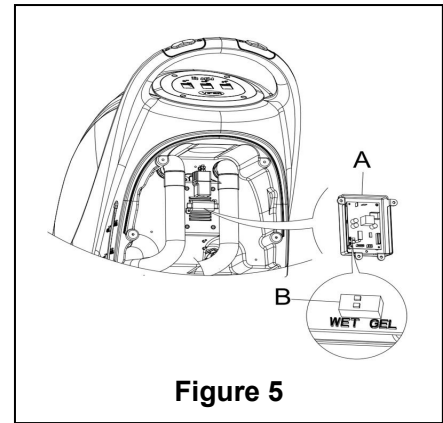

Figure 5
2. Take off draining hose (15)
4. Take off the control cover (5), and the screws of the battery cover (10). Remove the screws on the PCB stand. The DIP switch (B) for setting the battery model can be seen when flipping over the PCB board. (See Figure 5)
5. Adjust the micro DIP switch (B) to the position of "WET".